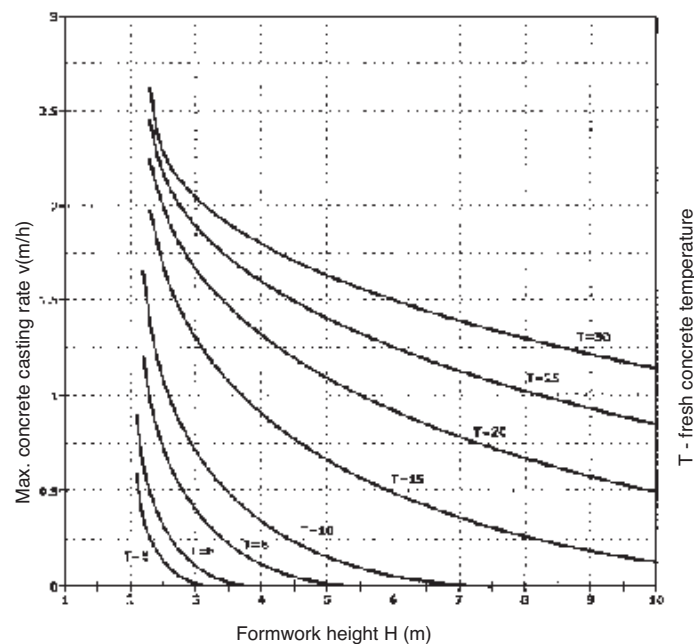

Fig. 9.2
- Fig. 9.2 is for column concrete casting rate (with the use of MIDI BOX formwork) and concrete with retarders.